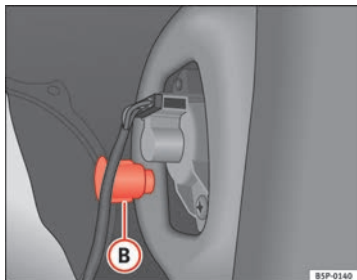

Fig. 191 Side lights and brake lights
- Unscrew the plastic fitting ⇒ fig. 191 (B) securing the tail light. Inserting a screwdriver under the plastic fitting may help to loosen it.